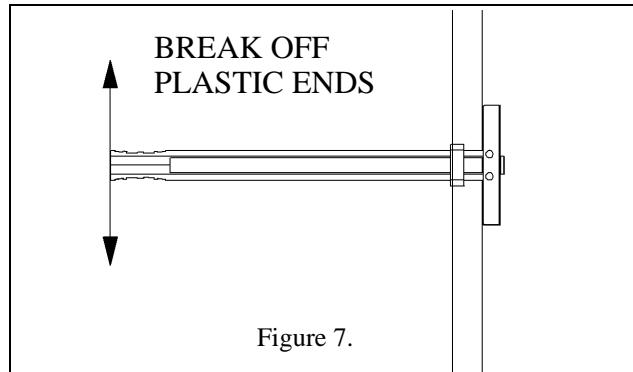

Figure 7.
5. Split finger grip ends apart to break of plastic ends flush with plastic ring of anchor (see Figure 7).